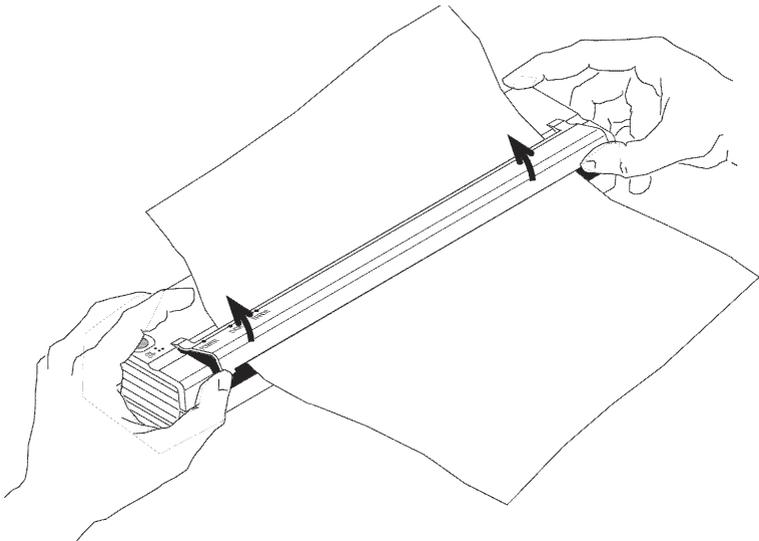

Figure 15. Opening the release cover
- If the printer *does not* start to print immediately, open the release cover as far back as it will go. See Figures 15 and 16, pages 43 and 44. Pull the paper out, close the cover, and reinsert paper.
See Figure 15.